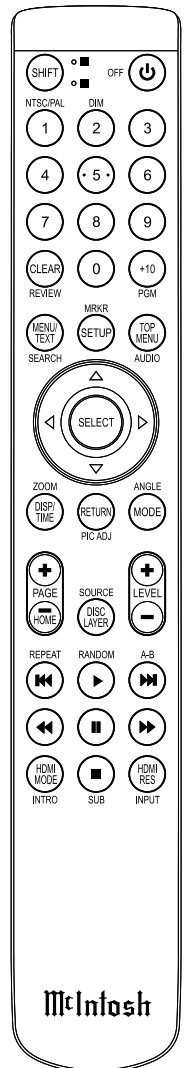

Figure 10
1. Press the SHIFT Push-button and then the RANDOM Push-button twice to access the Program Mode. Refer to figures 10, 24 and 29.